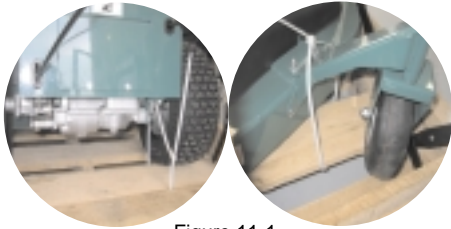

Figure 11-1
**1. Cut and remove the nylon retaining straps (see figure 11-1).**